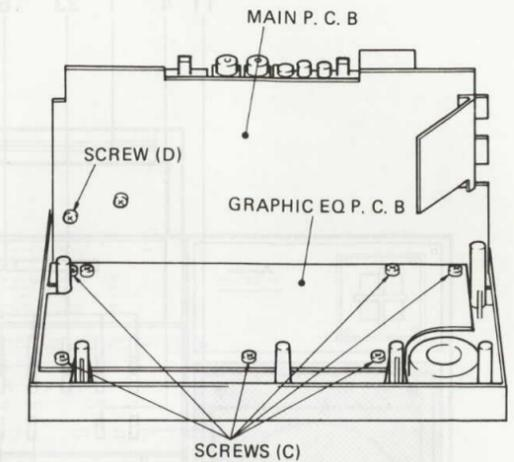

Fig. 3
- 1) After removing the Tuner PCB, remove the 5 screws (C) and 1 screw (D) shown in Fig. 3.